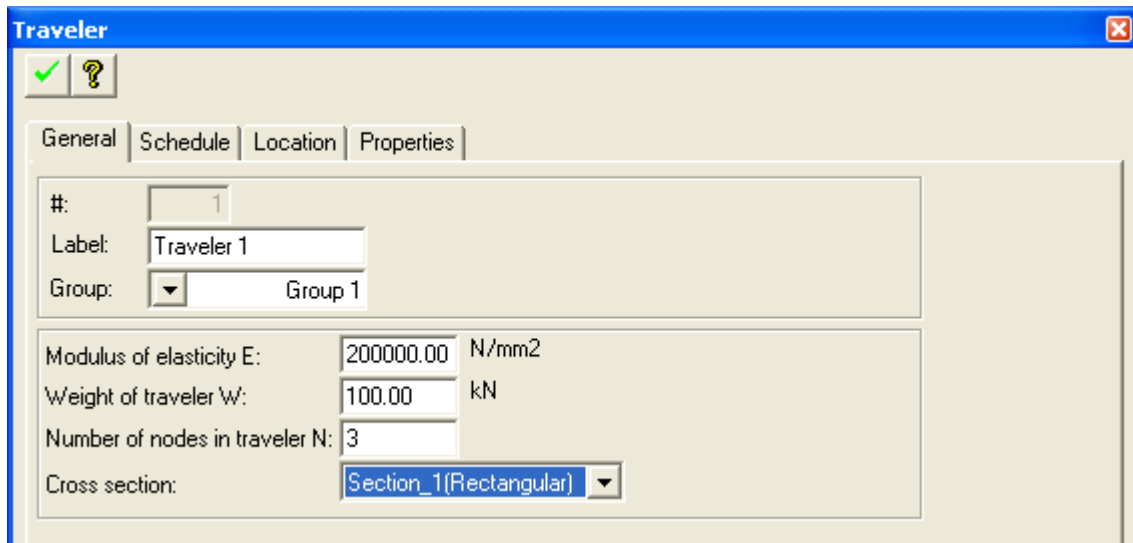

FIGURE 2.14-6 TRAVELER PROPERTY BOX
**Create Traveler.** This tool is used to create a traveler. To create a traveler click on the Create Traveler tool and follow the instructions at the bottom of the screen. To modify properties of existing traveler open its property box as shown in **Figure 2.14-6**.